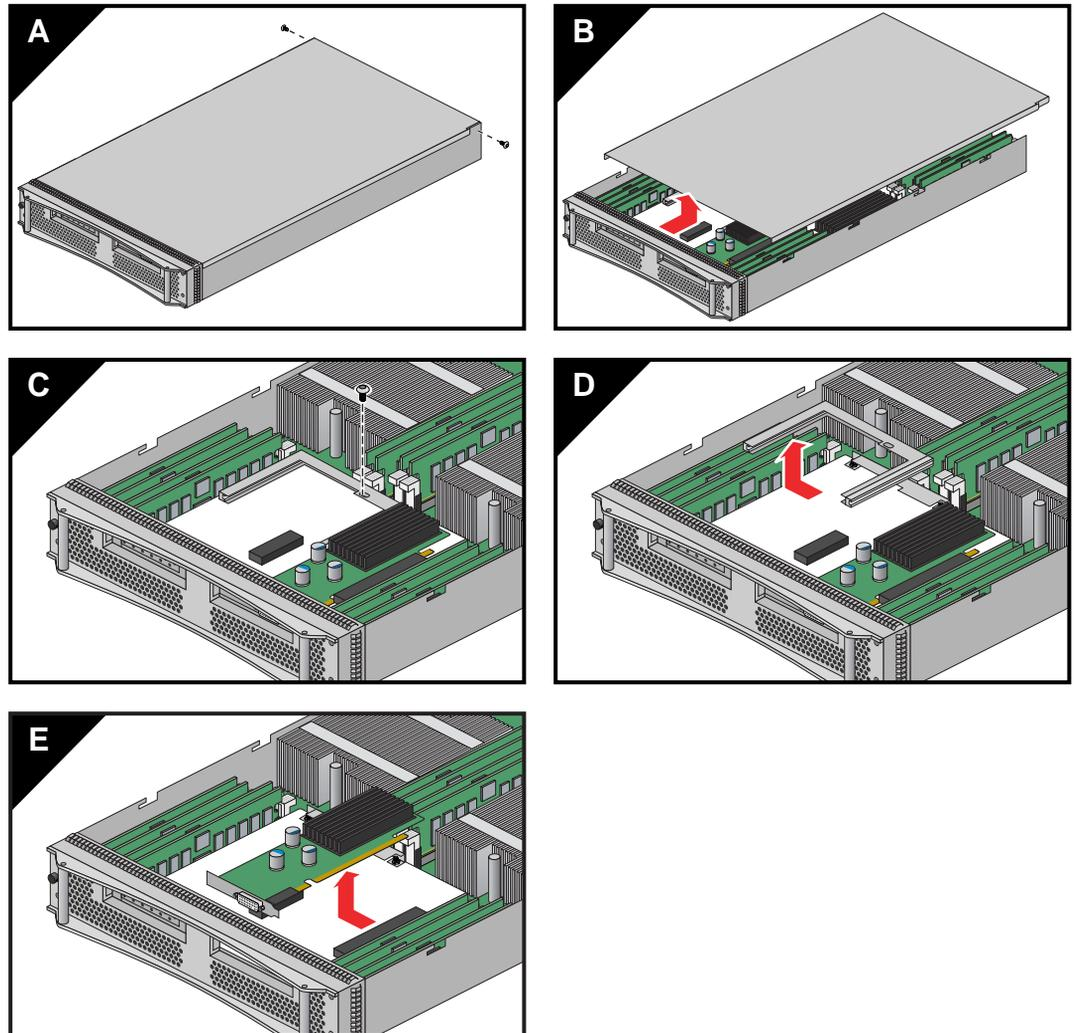

Figure 5-5 Remove PCIe Card from the Riser Blade
4. Unscrew and remove the two T10 torx-head screws located on either side of the rear part of the blade's sheetmetal housing, (see Figure 5-5 on page 63). Set the screws aside for the re-installation process.